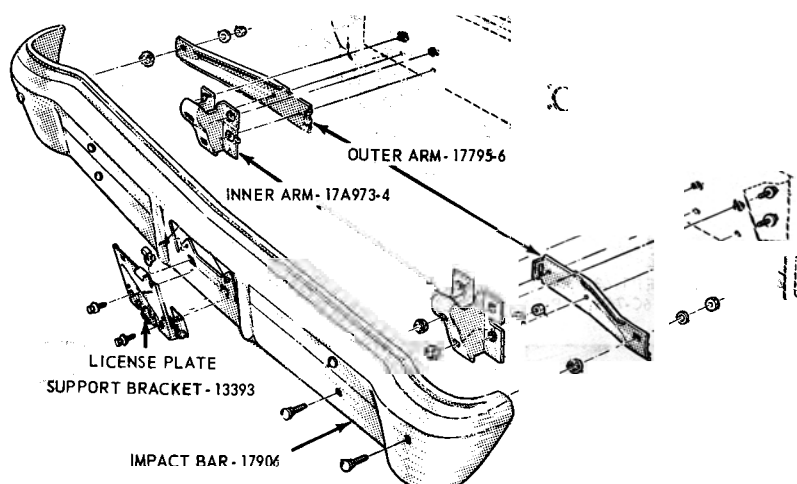

FIG. 11 -Comet, Fairlane Rear Bumper Installation
4. Remove the lower inner arm-to-lower back panel retaining screw and washer assemblies (Fig. 11).
5. From inside the luggage compartment, remove the upper inner arm-to-lower back panel retaining screw and washer assemblies (Fig. 11). Remove the bumper assembly from the car and place it on a bench.
6. FAIRLANE ONLY: Remove the screw and washer assemblies retaining the license plate support bracket to the impact bar (Fig. 11), and remove the license plate support bracket assembly from the impact bar.
port bracket-to-impact bar bumpers (Fig. 11).
8. Remove the bumper outer and inner arm-to-impact bar retaining bolts and spacers (Fig. 11). Remove the outer and inner arms from the impact bar.